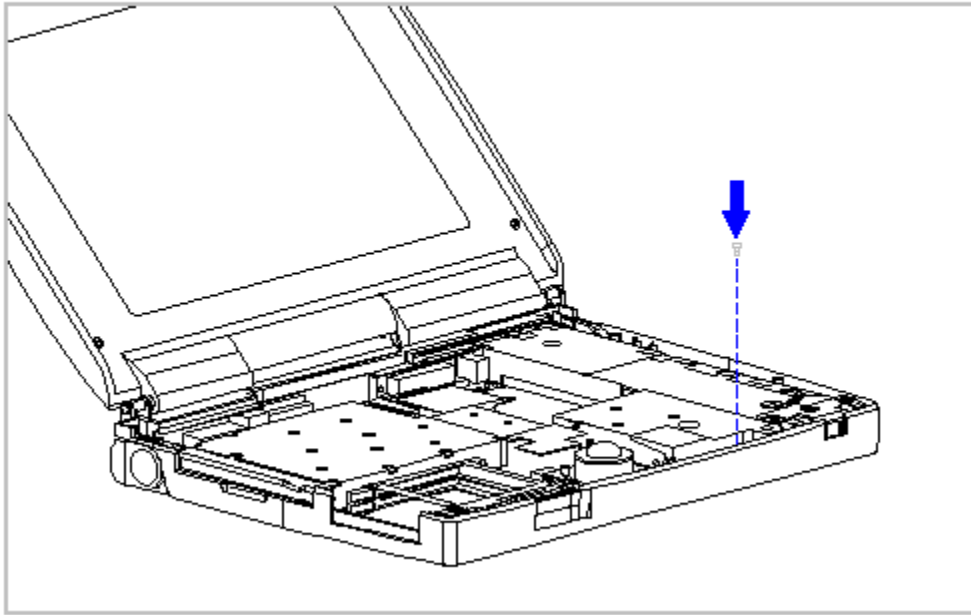

Figure 5-33. Replacing the Screw that Connects the Hard Drive Bracket to the System Chassis
2. Replace the screw that connects the hard drive and bracket to the system chassis (Figure 5-33).